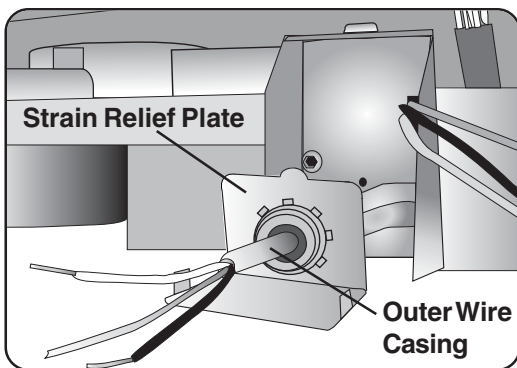

Figure 28
- 2 Pass the electrical supply cable through the strain relief, as shown in **Figure 28**. Make sure the outer wire casing extends about 1/2" (13mm) through the strain relief.